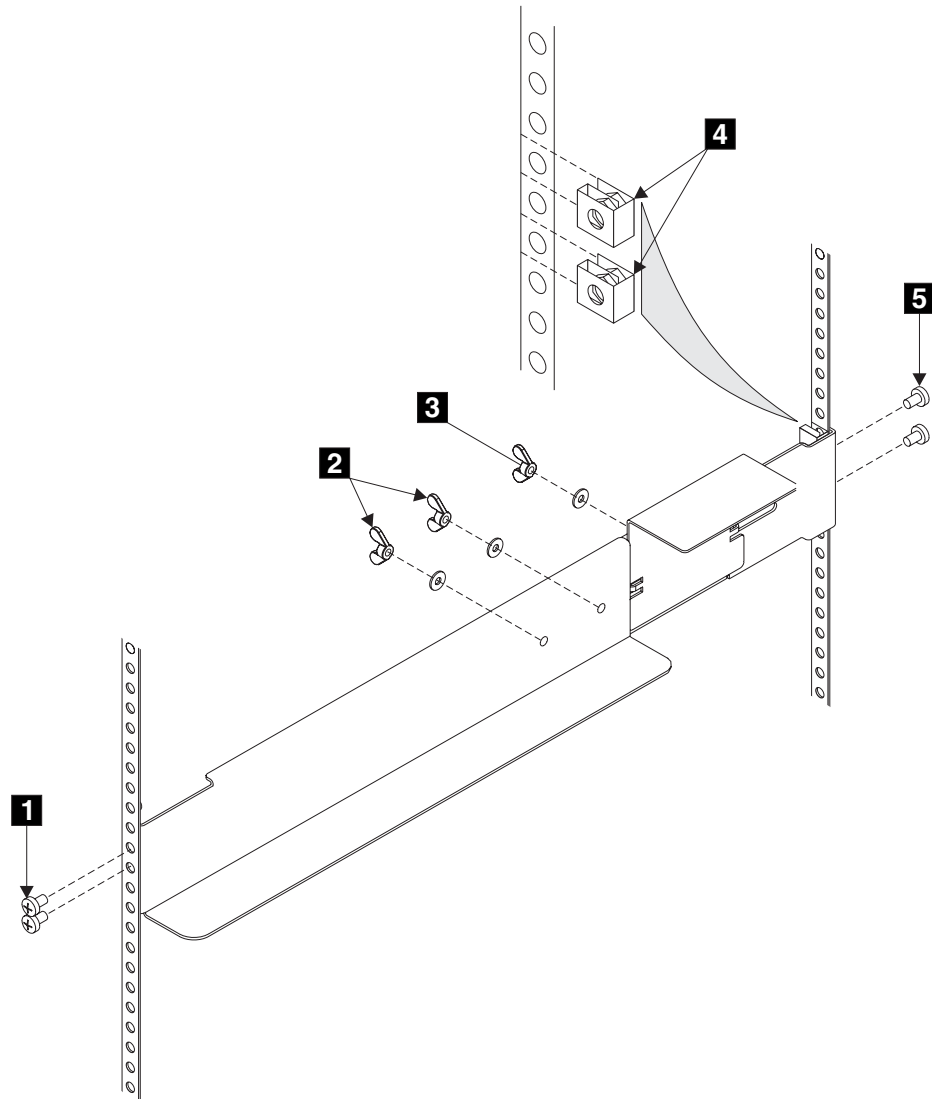

Figure 228. Installing support rails for a 2145 UPS into the rack
1. Attach nut clips **4** to the rack (see Figure 228 on page 489). These nut clips must align with the second and fourth holes of the support rail flange.